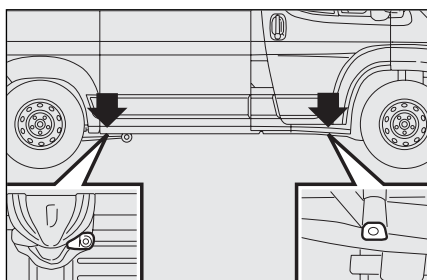
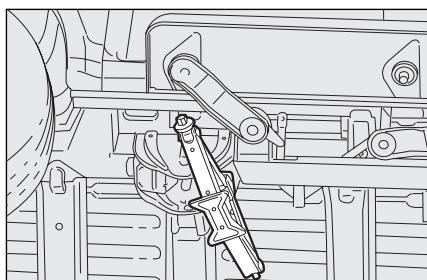

fig. 7a
fig. 7b
- ☐ set the jack near the lifting support close to the wheel to change in the points shown in **fig. 7a**. For short wheelbase versions with retractable footboard, the jack shall be set in the point shown in **fig. 7b** and shall be suitably directed (45°) to avoid interference with the retractable footboard;